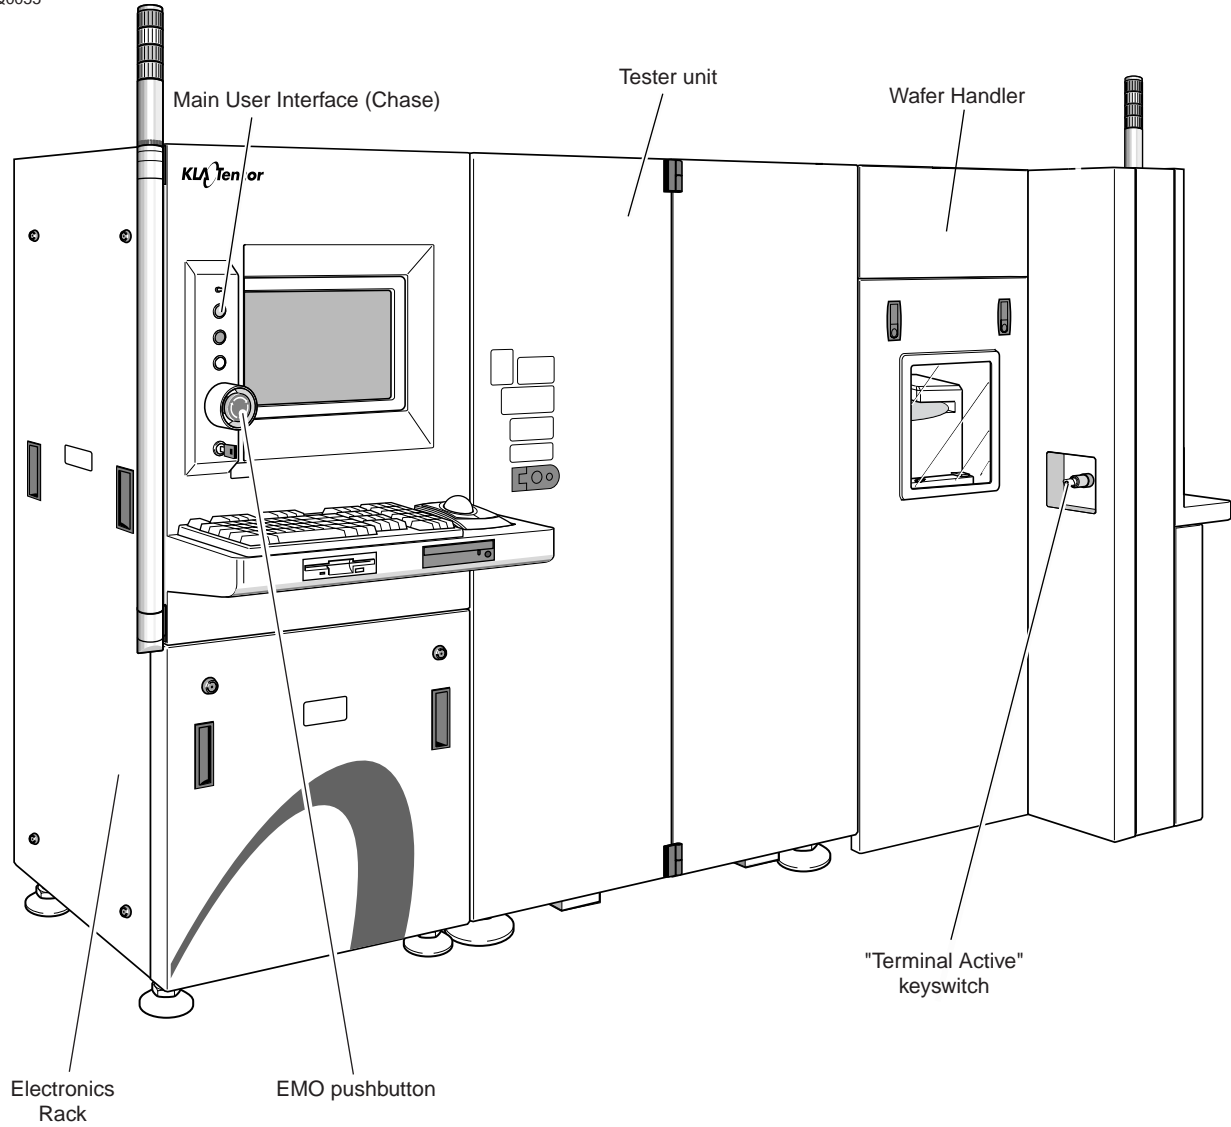

Figure 1-3: Main User Interface, “Terminal Active” Keyswitch, Quantox 300-mm System
- The main EMO is located on the user interface panel on the side of the tester unit (Figure 1-3)